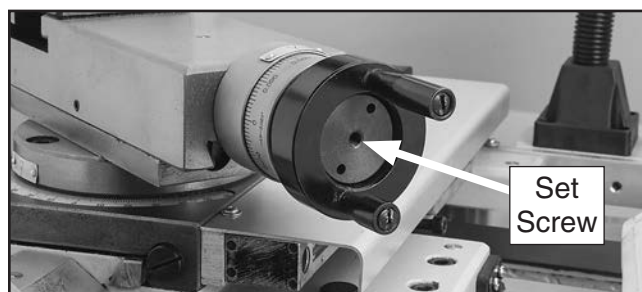

Figure 122. Compound slide backlash adjustments.
2. Loosen set screw on compound slide faceplate several turns (see **Figure 122**).